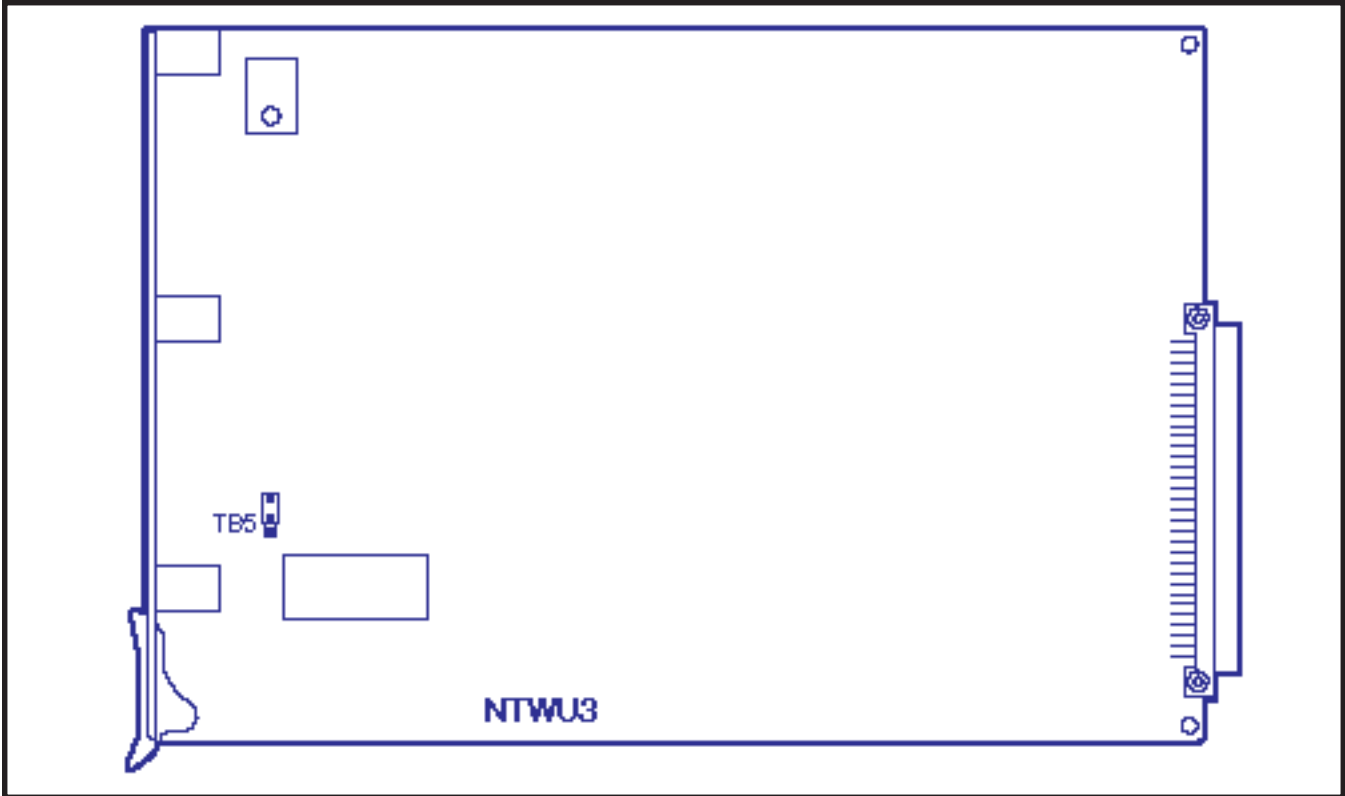

FIGURE 4-14—NTWU STRAPPING
**3.21** The NTWU has one strap that must be verified before installation (Figure 4-14). Install the NTWU in the TWU slot of the basic cabinet. Ensure that the strap is as follows: